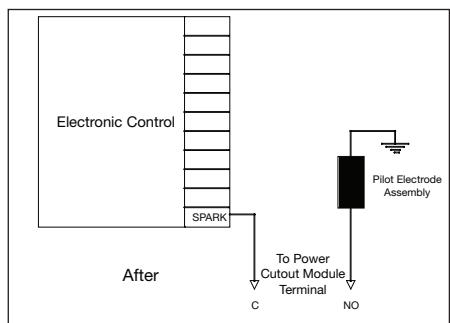

Figure 12
3. Using two-conductor thermostat cable, install the spade terminals to one side of the cable and then fasten terminals to the other side of the cable. Connect the cable from the Power Cutout Module Figure 14 Terminal C (common) to the SPARK terminal of the Electronic Control and NO (normally open) to the Pilot Electrode Assembly as indicated in Diagram 2, **Figures 12 and 13**. Note: We have made every effort to provide all of the hardware required for a complete installation. However, the terminal connections used to connect the Pilot Electrode Assembly to the Electronic Control vary by manufacturer, although we have included several connectors used by leading manufacturers with your WDS, your specific mating connectors may not be included. If the required connector is not included, it may be purchased locally at any electronic supply store. Install the Connecting Cable **Figure 15** to the Power Cutout Module terminals and R1 and R2, route the Connecting Cable to the Control Unit and insert the interlocking connector end to the circuit board.